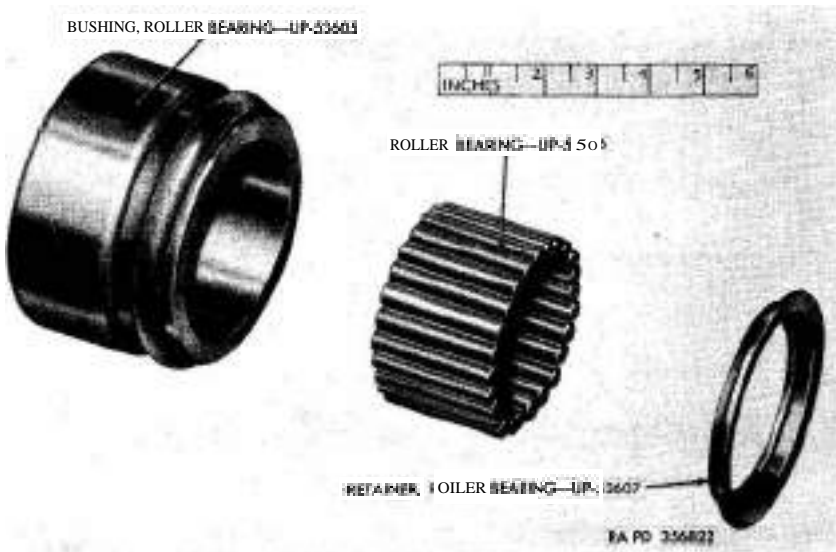

Figure 145. Roller bearing assembly—exploded view.
Note. From a reclamation standpoint, the roller bearing assemblies (B, F, V, and Y) can be disassembled (fig. 145).
a. *Inspect Journals.* Inspect journals (J) for wear, corrosion, scores, cracks, or other visual damage. If wear is evident, measure journal pins with a micrometer. If the journal is not in good condition or the diameter of the journal pins is less than the wear limit in paragraph 347, replace journal.
b. *Inspect Roller Bearing Bushings* (fig. 145). Inspect roller bearing bushings for wear, corrosion, scores, or cracks. If wear is evident, measure diameter of inside and outside ground surfaces. If the outside dimension is less or the inside dimension more than the wear limits specified in paragraph 347, replace bushings.
c. *Inspect Bearing Rollers* (fig. 145) . Measure diameter of bearing rollers with a micrometer and if dimension is less than the limit specified in paragraph 347, replace rollers.
b. Assemble Bearing Rollers in Roller Bearing Bushings (fig. 145). If the roller bearing assemblies were disassembled, apply general purpose grease (GAA) in the roller bearing bushings and insert 25 bearing rollers in each bushing. Install bearing roller retainer (cup side in) and make certain retainer is firmly seated.
- (1) Install bearing oil seal retainers (D, H, T, and AA) on journals (J). Make certain the retainers are properly seated on journal shoulders.
- (2) Soak bearing oil seals (C, G, U, and Z) in light engine oil for approximately 30 minutes before installation. Install oil seals on journals.